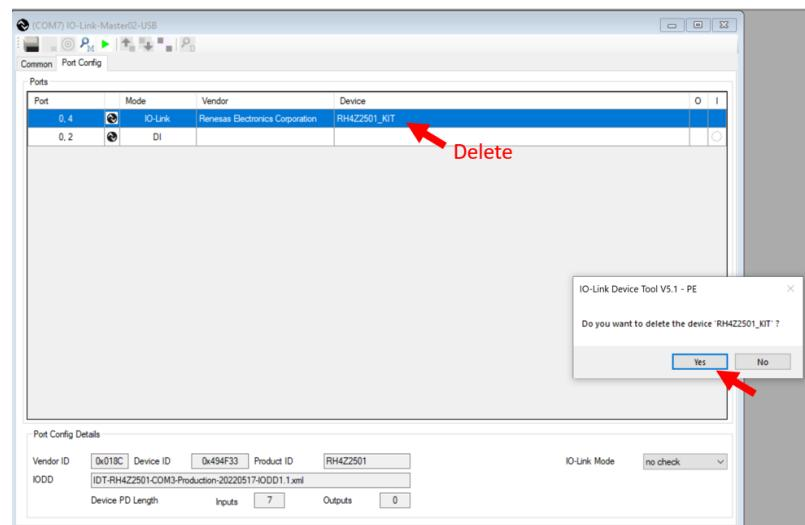

Figure 11. Deleting IODD Files
- Delete old IODD by 'right click->delete' and clicking 'Yes' in the pop-up confirmation window, see Figure 11.